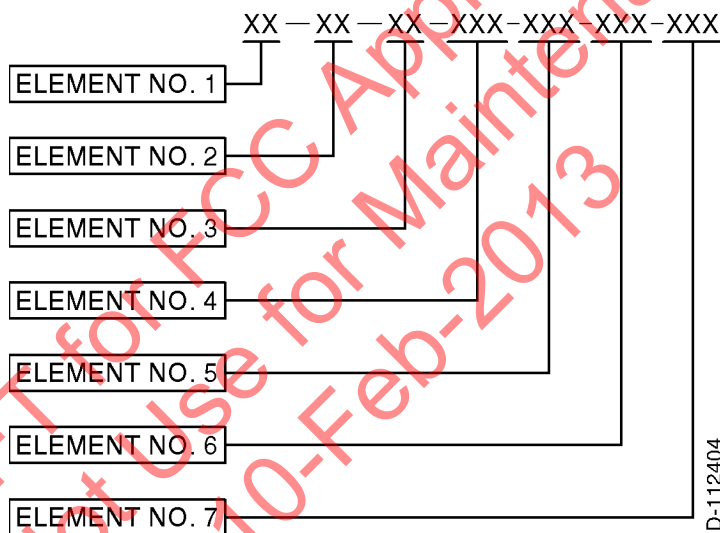

Figure 2. (Sheet 1 of 1) MTOSS Code Positions (GRAPHIC 23-15-30-99B-802-A01)
- (2) The system uses standard and unique number combinations to identify maintenance tasks and subtasks.
- (3) The MTOSS structure is the logical approach to organizing maintenance tasks and subtasks. The MTOSS numbering system includes the ATA Chapter-Section-Subject number as well as a function code and unique identifiers. The purpose of incorporating the MTOSS numbering system is to provide a means for the automated sorting, retrieval, and management of digitized data.
- (4) Section and Sub-section Numbering System
- (5) Components of Task and Subtask Number
- (a) The numbering system is an expansion of the ATA three-element numbering system. The number has seven elements. The first five elements are necessary for each TASK or SUBTASK. The sixth and seventh elements are applied only when necessary. Refer to Figure 2 (GRAPHIC 23-15-30-99B-802-A01).